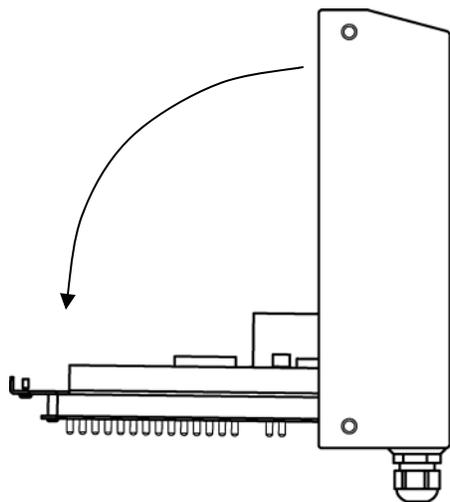

Fig. 6: Electronics Plate Down
2. Slowly, allow the Electronics Plate to swing down. The Controller board and Power Supply board are now accessible for installation, wiring and service (Fig. 6).